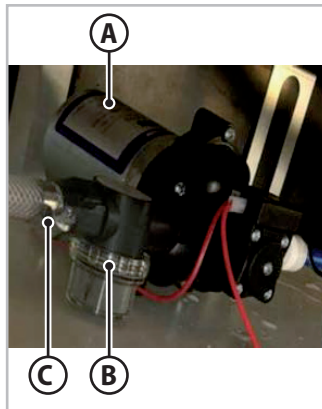

Fig.7.1 - External water pump filter
3. Access the water pump (**A** - Fig.7.1) by removing the cushions from the dinette sofa and removing the drinking water tank compartment lid.
4. Unscrew the plastic connection (**C** - Fig.7.1) between the filter and the drain tube.
5. Undo the transparent cover (**B** - Fig.7.1) on the filter and extract the filter body.